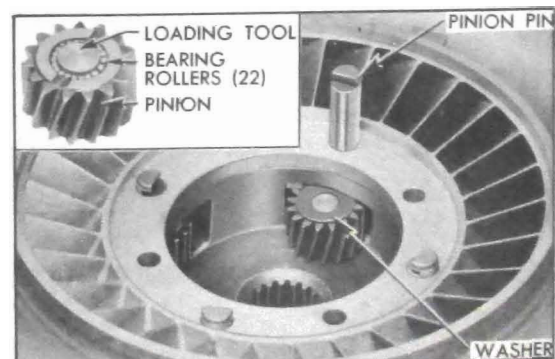

**Figure 5-50—Installing Turbine on Carrier**
5. Use a hammer and hardwood dowel or other soft punch to tap the turbine down over the carrier. Avoid distortion of turbine by using light blows applied midway between holes and alternated from side to side to keep parts square with each other. See figure 5-50.